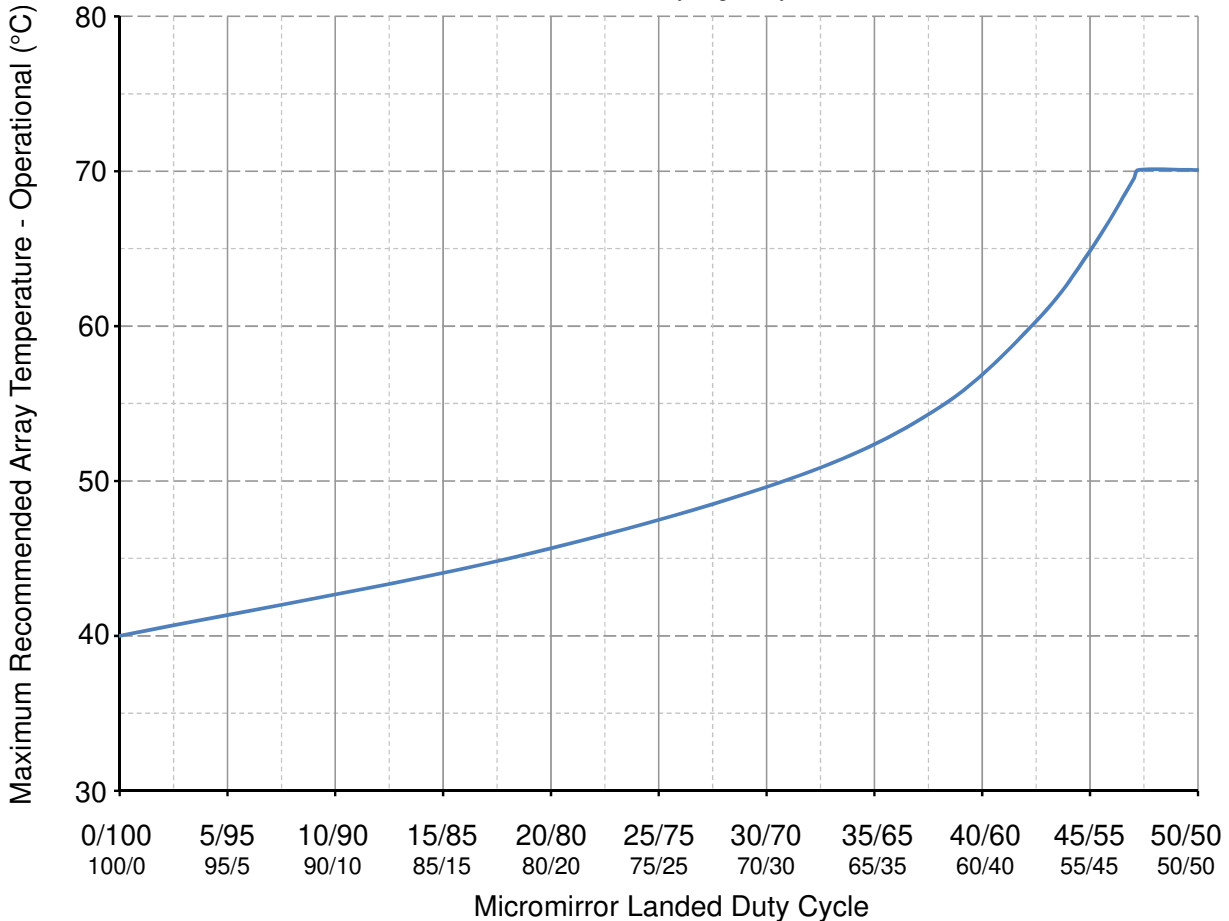

图 5-1. Maximum Recommended Array Temperature—Derating Curve
- (13) Long-term is defined as the usable life of the device.
- (14) Per 图 5-1, the maximum operational array temperature should be derated based on the micromirror landed duty cycle that the DMD experiences in the end application. See 节 6.8 for a definition of micromirror landed duty cycle.
- (15) Short-term is defined as cumulative time over the usable life of the device.